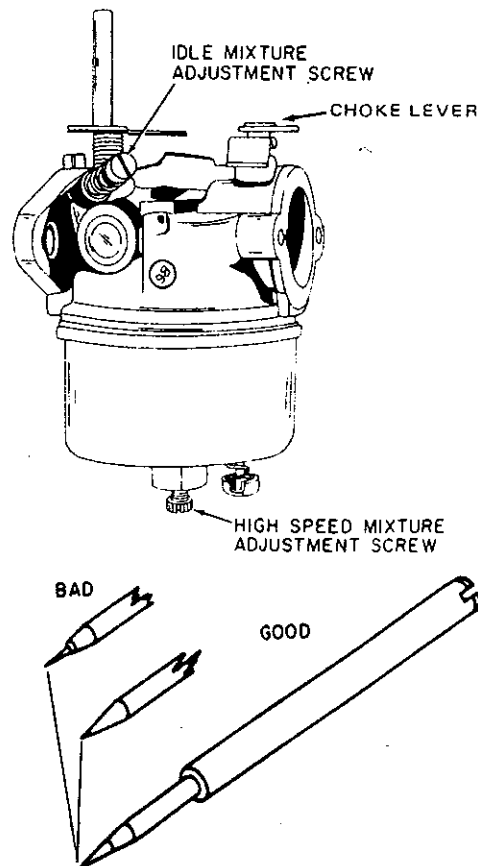
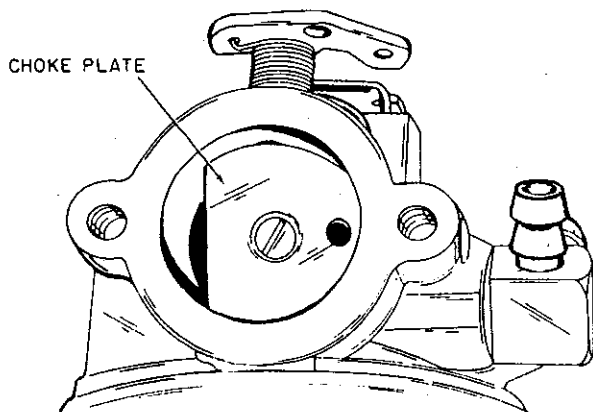

Figure 8
Figure 7
- (2) **CHOKE.** Examine the choke lever and shaft at the bearing points and holes into which the linkage is fastened (Figure 7), and replace if worn. The choke plate is inserted into the air horn of the carburetor in such a position that the flat surface of the choke is as shown in Figure 7. Hold the choke shaft securely into the bearing bore when replacing the choke plate. This will prevent binding and excessive choke plate wear.
- (3) **IDLE ADJUSTING SCREW.** Remove the idle screw from the carburetor body and examine the point for damage to seating surface on the taper. If damaged, replace the idle adjusting screw.
- (4) **MAIN ADJUSTING SCREW.** Some carburetors may not have a main (high speed) adjusting screw, but may instead have an orifice of a specific size called a main or high speed jet. The main adjusting screw must be removed, from models so equipped before inspecting.
- a. Examine the taper of the main adjusting screw (Figure 8). Install a new screw and fuel bowl retainer nut as an assembly if the taper (point) area of needle is damaged.